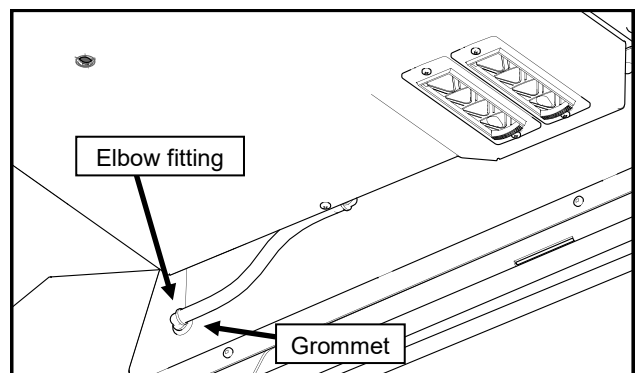

Fig. 4.9 (Attach Drain Tubes)
- 4.9 Install a rubber grommet into the large hole in the roof, on the driver's side to the rear of the A/C unit. See Figure 4.9.